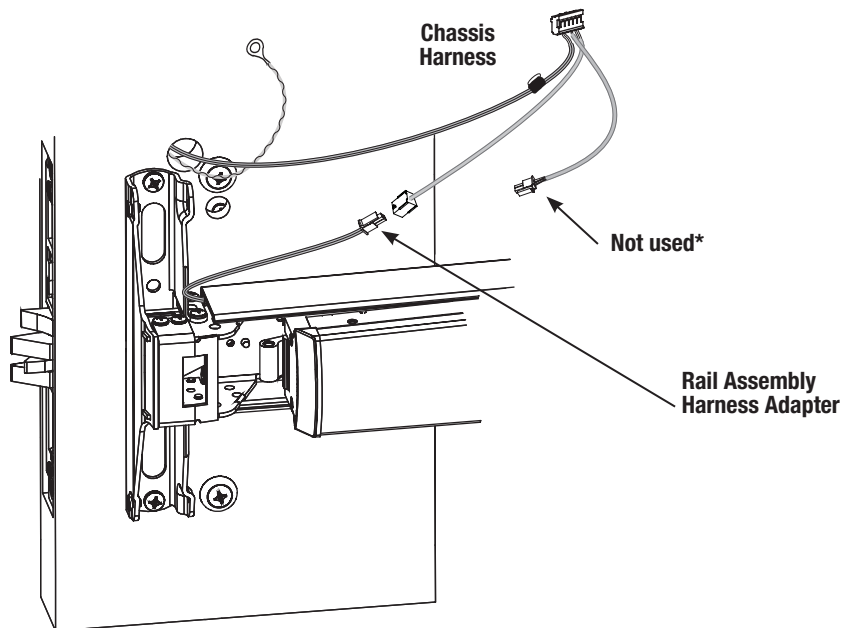

Fig. 13
- Connect motor harness adapter to chassis harness connector (Fig. 13).
- Connect rail assembly harness adapter to chassis harness connector (Fig. 13).